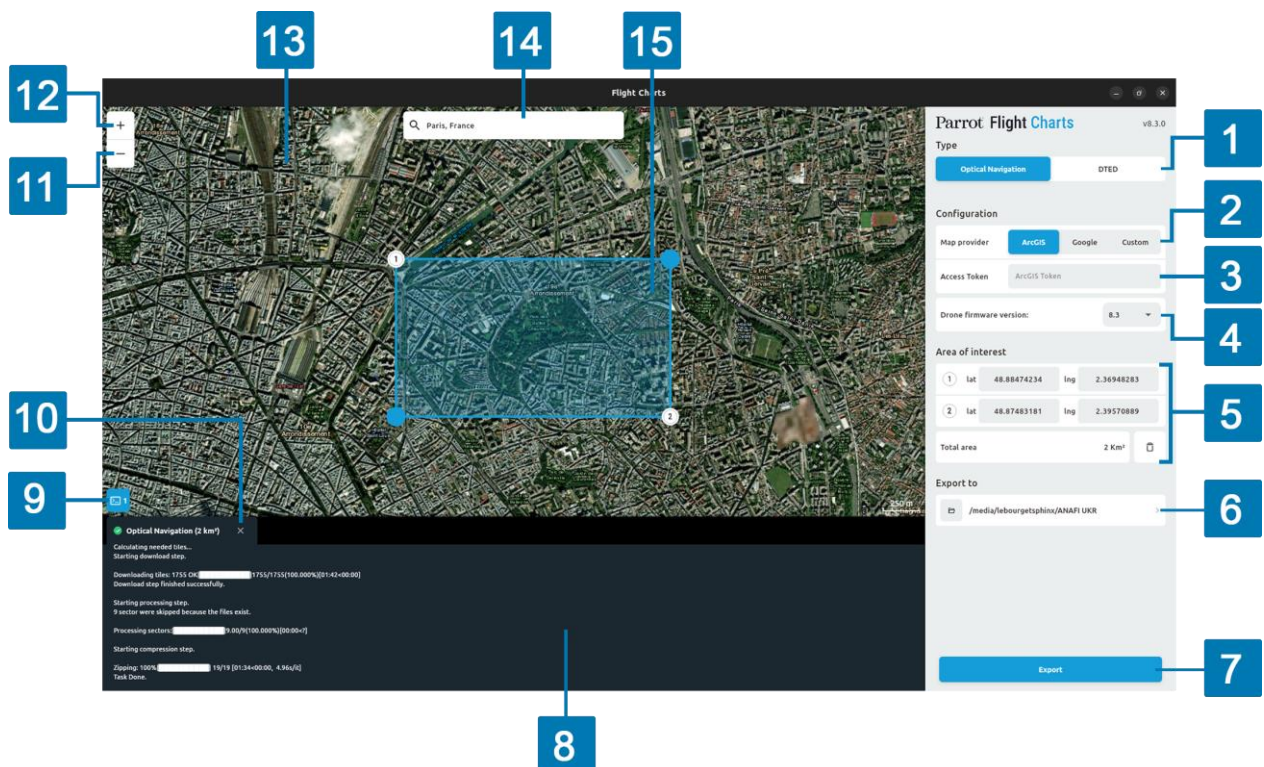

Figure 26: FlightCharts interface
1. Select the map **Type** (No. 1 in Figure 26) to create either an **Optical Navigation** map, or a **DTED** map.
- i. Under **Configuration**, select your **Map provider** (No. 2 in Figure 26) from either **ArcGIS**, **Google**, or **Custom**.
2. Select the **Drone firmware version** from the drop-down menu (No. 4 in Figure 26).
3. In the **Satellite basemap** interface (No. 12 in Figure 26), left-click and drag to the area of interest.
4. Zoom in or out using the zoom buttons (No. 10 & No. 11 in Figure 26) or the mouse scroll wheel.
5. Click the **Satellite basemap** (No. 12 in Figure 26) to create a bounding box.
The **Area of interest** geographic information (No. 5 in Figure 26) for the bounding box you created in step 5 and 6 displays on the right-hand side:
7. Click **Export** (No. 7 in Figure 26).
The **Logs** box opens (No. 8 in Figure 26). The Logs box indicates in percentages: